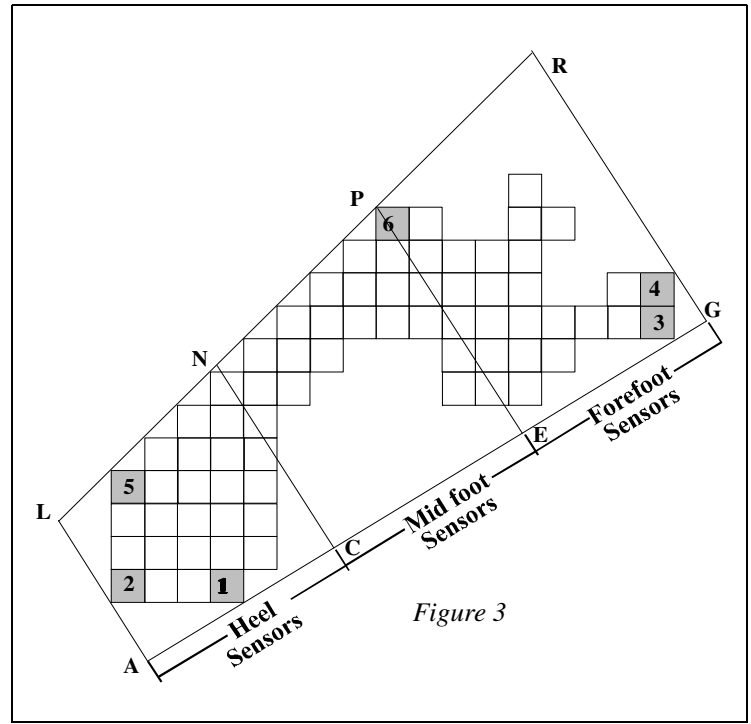

Figure 3
The method for defining the quadrilateral of a footprint was first developed by Shores¹ and later improved upon by Lisa Selby-Silverstein², while an automated, improved version of the algorithm has been implemented by the GAITRite system. The following steps refer to Figure 3.
Refer to Figure 3 and identify points (C) and (E); these two points divide the medial line (AG) into three equal spaces.